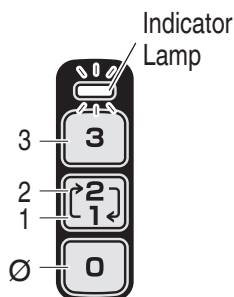

Fig. 14
2. The Indicator Lamp (Fig. 14)